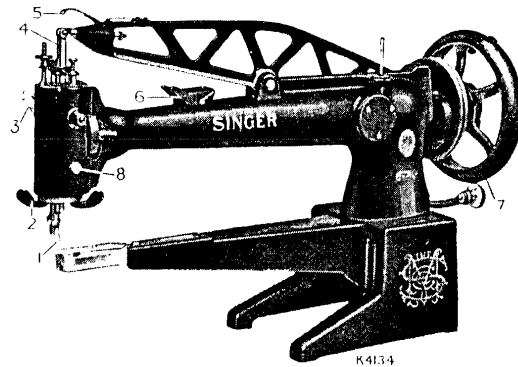
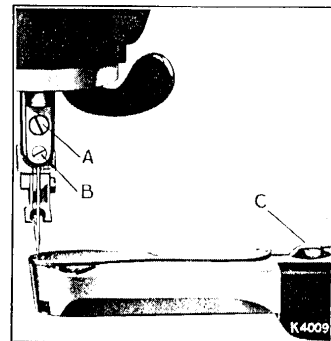
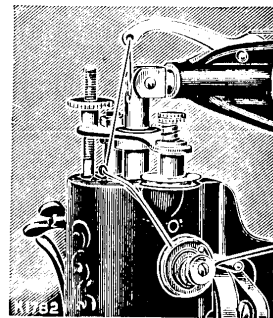

Fig. 1.
Fig. 3.
Fig. 5.
(See Fig. 1)
The feeding foot rises between each stitch while the needle is in the material, the needle serving as a pivot upon which the material can be turned in any direction. When desired, the feeding foot may be fixed to work in a straight line, in any direction, by tightening the knurled set screw (8, Fig. 1) in front of the machine head. **Never turn the work or alter the direction of the feed while the foot is pressing on the material, as this may cause missed stitches and damage the surface of the work.**
Raise the needle bar (1, Fig. 1) to its highest, loosen the screw (B, Fig. 3) and insert the shank of the needle up into the needle clamp as far as it will go, with the long groove of the needle to the left, and its eye directly in line with the arm of the machine. Tighten the screw (B). Loosen the screw (A) and move the clamp to right or left until the needle passes through the centre of the hole in the needle plate, then tighten screw (A).
Place a reel of thread on the spool pin on the arm of the machine, so that the thread will draw from the back. Raise the wire guide in the oil cup (6, Fig. 1) on the top of the arm and, after passing the thread under the wire guide, press it back into position. Then pass the thread at the back of the pin, which is near the tension discs on the top of the machine head, from back to front and right to left
between the tension discs, into the wire thread eyelet, and up and from front to back through the hole in the end of the take-up lever (5, Fig. 1). Draw about 10 inches of thread and insert the end into the slit in the end of the threading wire supplied with the machine. Now pass it from the back of the lever (5, Fig. 1) down through the hole in the centre of the needle bar, and from left to right through the eye of the needle, leaving an end of thread 3 or 4 inches long with which to commence sewing.
(See Fig. 5)
Raise the wire guide in the oil cup (6, Fig. 1) on the top of the arm and, after passing the thread under the wire guide, press it back into position. Then pass the thread over the pin near the tension discs in front of the arm (see Fig. 5), from right to left under and between the tension discs, up into the wire eyelet on
top of the arm of the machine, and from front to back through the hole in the end of the take up lever (5, Fig. 1). Draw about 10 inches of thread and insert the end into the slit in the end of the threading wire supplied with the machine; pass it from the back of the lever (5, Fig. 1) down through the hole in the centre of the needle bar, and from left to right through the eye of the needle, leaving an end of thread 3 or 4 inches long with which to commence sewing.
Raise the needle bar to its highest point and lift the feeding foot (1, Fig. 1) by means of the lifter (3, Fig. 1). Press down the lever (C, Fig. 3) and swing the needle plate round. Turn the balance wheel until the point of the shuttle is nearest you, then lift out the shuttle with the thumb and fore-finger; turn it over and the bobbin will drop out.
Raise the needle bar to its highest point by turning the balance wheel, lift the feeding foot by means of the lifting lever (3, Fig. 1), and draw the material backward about 3 inches; then cut the threads close to the work. Leave both ends of thread under the feeding foot.